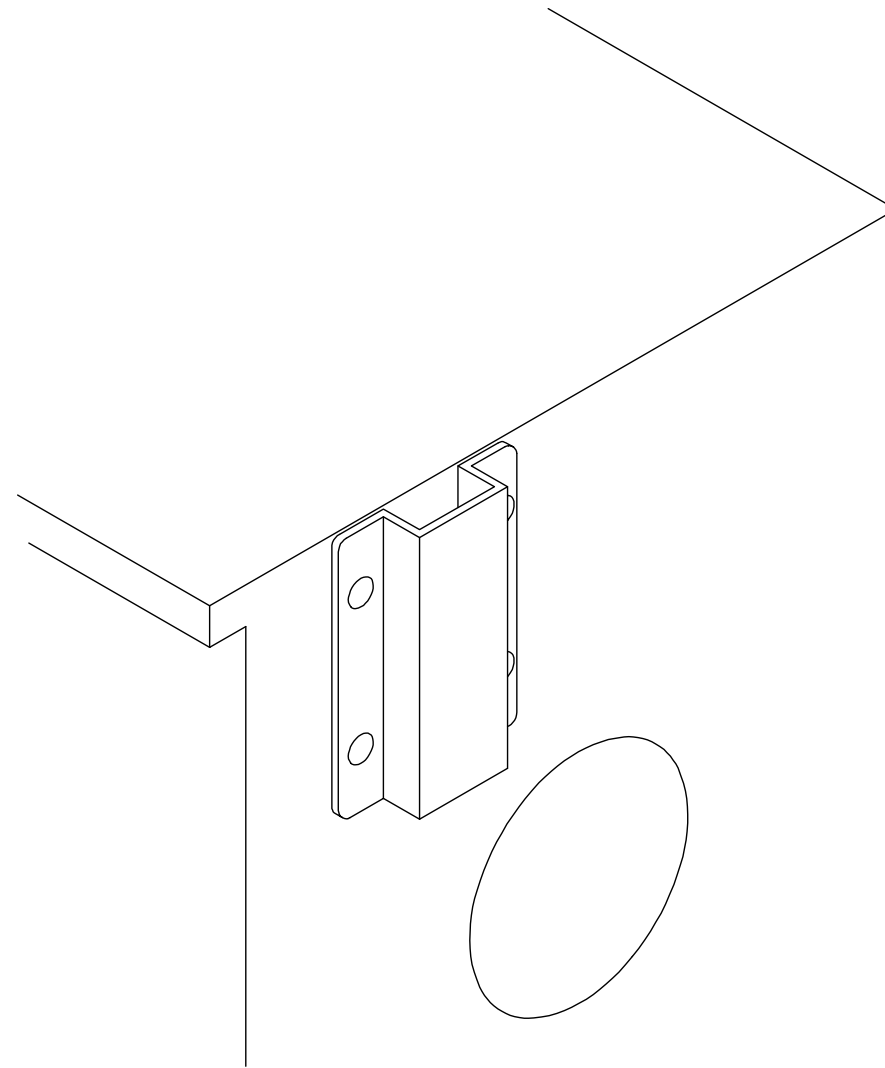
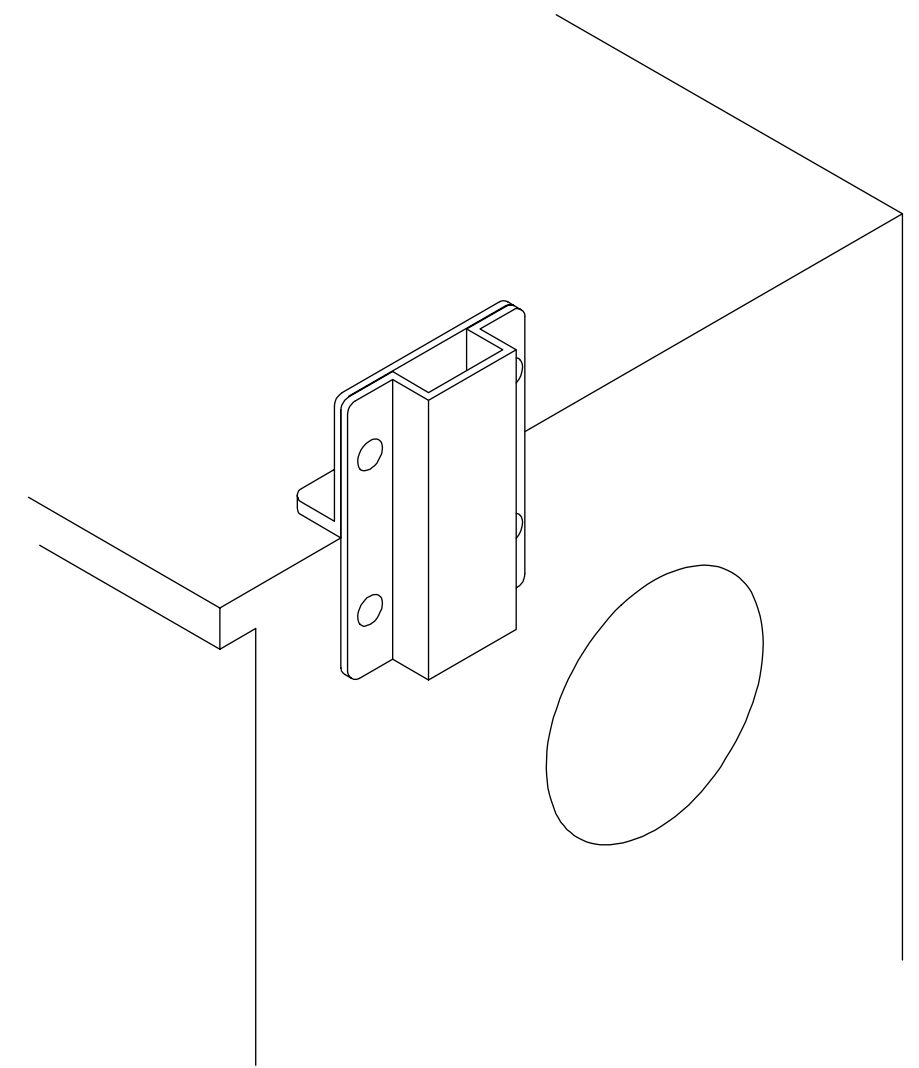

Figure 3. Option 1 Installed (viewed from Driver Side rear)
Figure 4. Option 2 Installed (viewed from Driver Side rear)
**1. Rear Leg Support Installation** - Begin with the rear of the vehicle, as the taillight location may determine the mounting option as well as the side to side placement. The Leg Supports when mounted must not be more than 72" center to center (see Figure 2.), and must be centered evenly side to side. Mount near the outside corner of the box if possible, for strength. **Option 1** is preferred (see Figure 3.), but **Option 2** (see Figure 4.) may be necessary at the rear of vehicle, depending on taillight locations. Decide which option to use, then follow that option's procedure. Fasten the Leg Support/Upper and Lower Brackets loosely at the rear of the box.